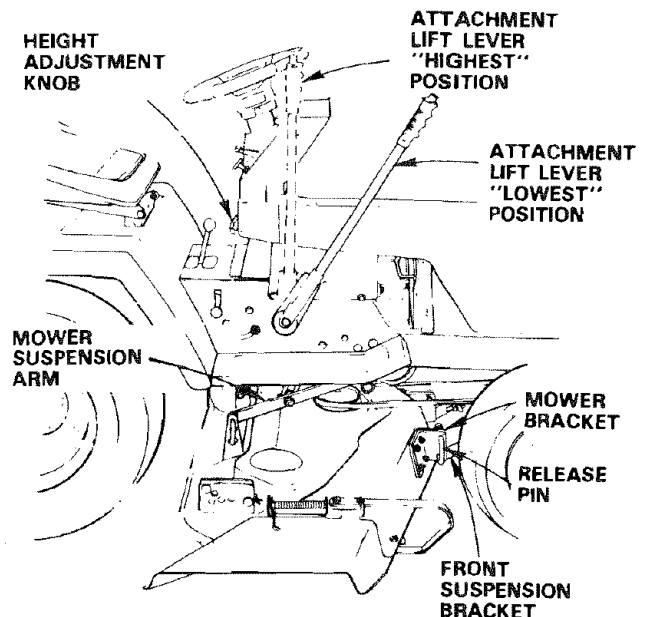

FIGURE 7
- Remove banding from suspension arms (Fig. 7).
- Slide front suspension brackets into mower brackets. Retain with release pins (Fig. 7).
- Turn height adjustment knob (Fig. 7) clockwise () to remove slack from mower suspension.